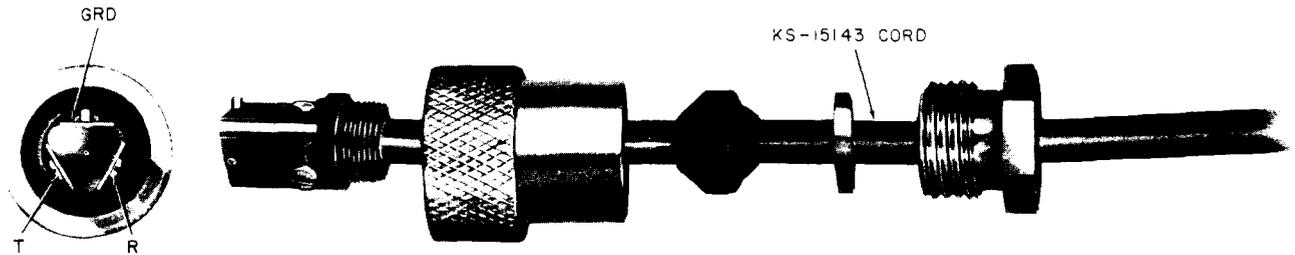

Fig. 28—KS-8419 (MD) Plug
2.22 KS-8419 (MD) Plug: The KS-8419 (MD) plug (Fig 28) is a 3-contact, brass plug intended for connecting telephone sets installed on boats, trains, or auto trailers to outdoor jacks of PBX or central office (CO) lines. This plug is intended for use with KS-8420 (MD) jacks. This plug has been replaced by the B and C weatherproof cords which have plugs attached and are intended to be used with B weatherproof jack, B waterproof jacks, and B weatherproof jack adapter.
- ◆Fig. 28—KS-8419 (MD) Plug